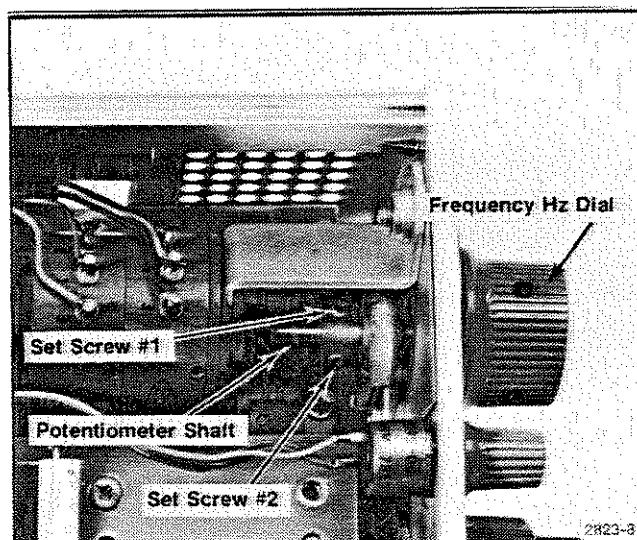

Fig. 4-5. Left side view of SG 505.
- CHECK/ADJUST—the SG 505 frequency for 4.000 kHz as follows: Loosen internal set screw #1 located on the reduction drive shaft of the FREQUENCY Hz potentiometer assembly R530 and R520 (see Fig. 4-5). Position the FREQUENCY Hz dial to 4. Loosen set screw #2 and turn the potentiometer shaft with pliers until the counter reading is 4.000 kHz. Tighten set screw #2 without moving the FREQUENCY Hz dial. Turn the FREQUENCY Hz dial to gain access to set screw #1 and tighten.